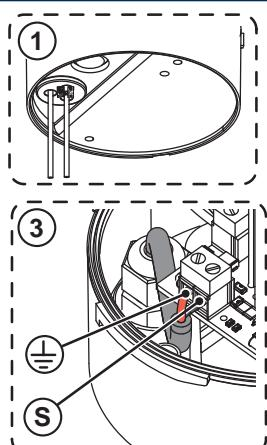

Fig. 13
1. Make a Ø 12.5 hole in the cover support (Fig. 13 ref. ①).
2. Install an M12x1.5 (or PG7) cable runner, not supplied, as shown in figure 13.
3. Insert the antenna cable and connect it to the dedicated terminals precisely as shown in figure 13.